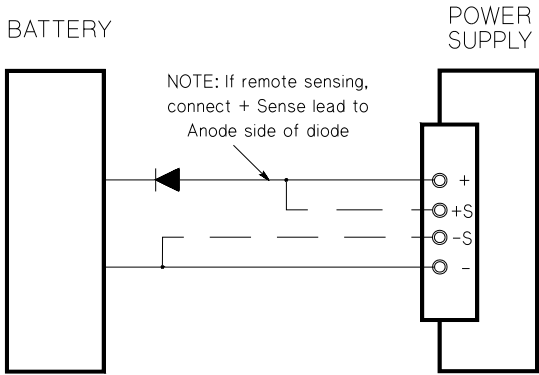

Figure 3-1. Recommended Protection Circuit for Battery Charging
*The power supply’s OVP circuit contains a crowbar SCR, which effectively shorts the output of the power supply whenever the overvoltage condition occurs. If external voltage source such as a battery is connected across the output, and the overvoltage condition inadvertently occurs, the SCR will continuously sink a large current from the source; possibly damaging the power supply. To avoid this a diode must be connected in series with the output as shown in Figure 3-1 on next page.*